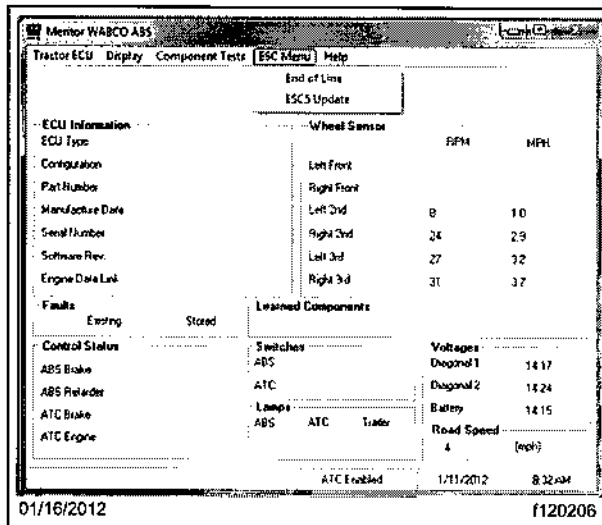

Fig. 6, ESC Menu
5. Return from the fault menu and select the "ESC Menu". See Fig. 6.
3. On the main ECU screen, on the top bar click "ESC Menu". See Fig. 6.